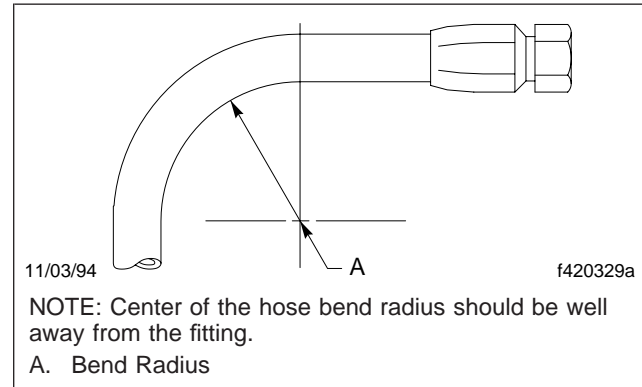

Fig. 9.12, Bend Radius
- 40.8 Check the bend radii of all hoses. See Fig. 9.12. The minimum bend radius of a hose is that bend which the hose will withstand without experiencing damaging stresses or kinking. For minimum bend ra-